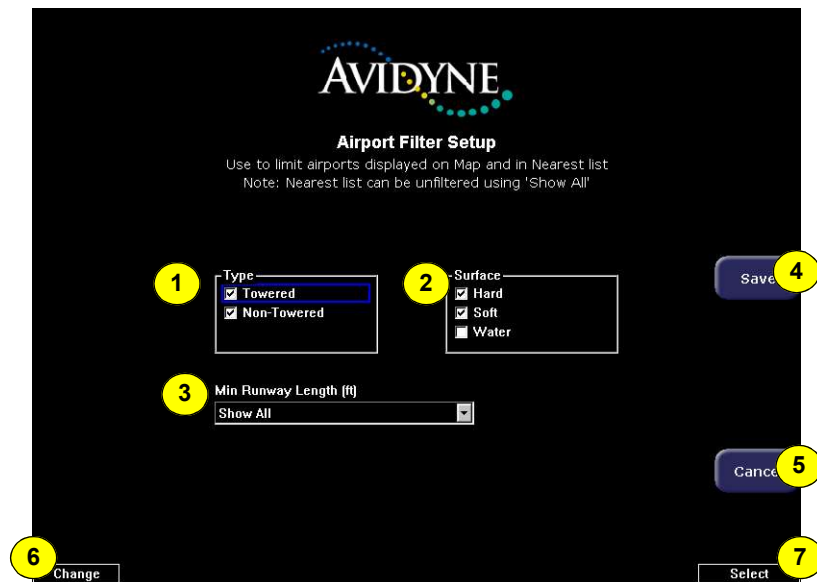

Figure 7.2 Airport Filter Setup Page
- 5) **FILTER**—Press to see all airport types (SHOW ALL) or only the airport types as defined on the Airport Filter page (ON) (see Section Figure 7.2, "Airport Filter Setup Page" on page 69). *Filter* is only visible on the Nearest Airport pages.